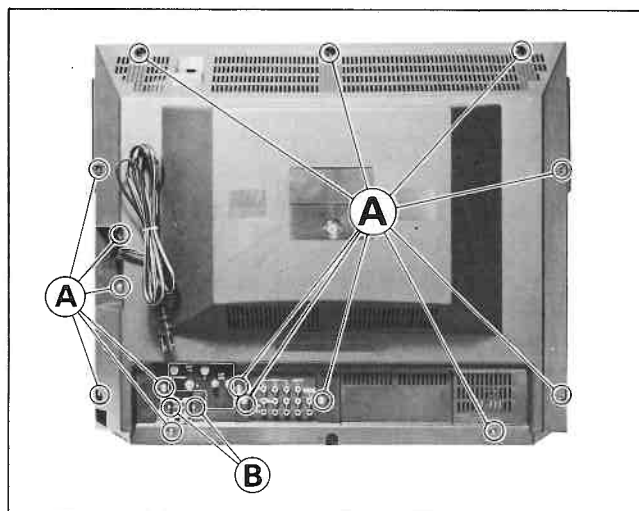

Fig. 5-1
1. Unplug the power supply cord and unscrew the seven screws (A) & (B) shown in Fig. 5-1.